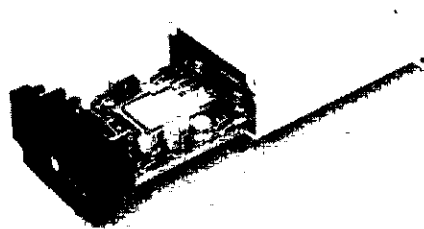

Figure 7A-3. Removal of Probe PC Board.
11. Adjust R13 (figure 7A-4) for flattest pulse top possible.